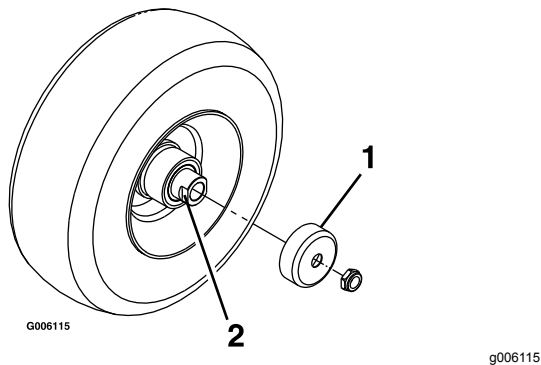

Figure 45
4. Remove the seal guards from the wheel hub (Figure 45).